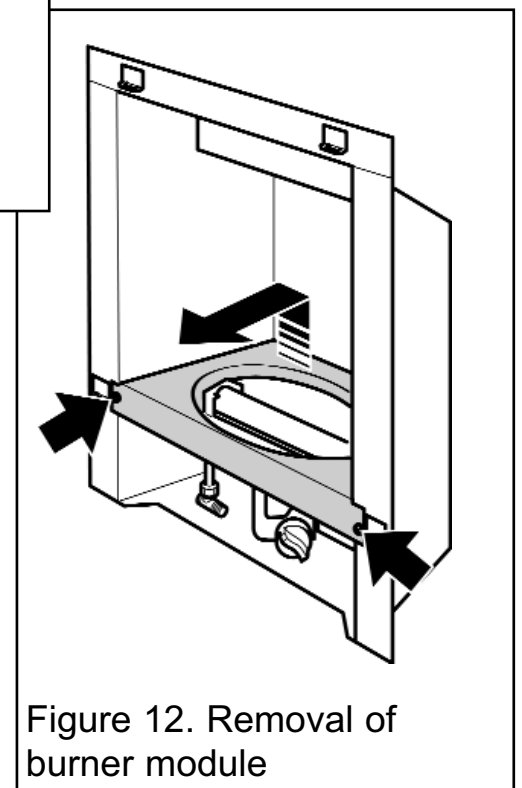

Figure 12. Removal of burner module
6. Remove the two screws to the side of the burner cover (See figure 12)
7. Detach the burner cover by lifting clear of the burner module (See figure 12)